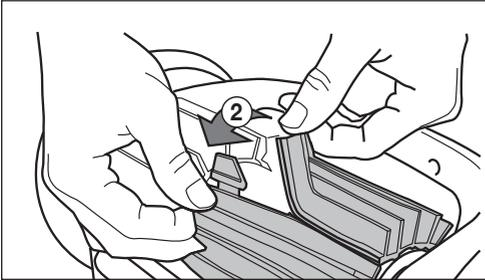

Figure 19. Undo the Tabs of the Brush
2. Separate the edges of the brush and undo the tabs. Remove the worn brushes. See Figure 19.